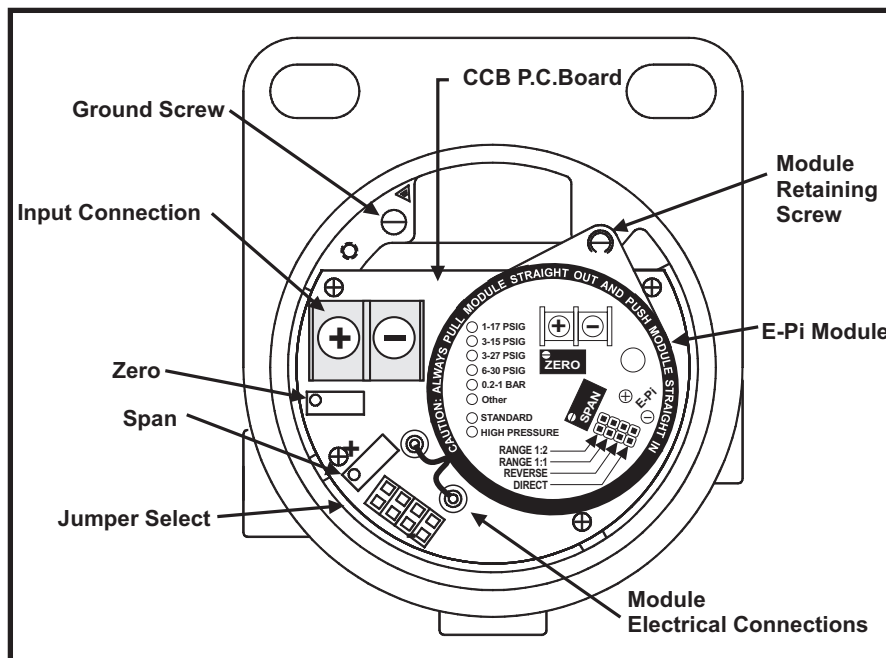

Figure 1 - PCB Connections
**1.1.4 Electrical Input:** 4-20mAdc or 10-50mAdc current source (specify when ordering). It is recommended that shielded cable be used and that shield be grounded to unit and earth ground. If cable contains shield and drainwire, ground shield not drain wire, unless metal conduit is used. Metal conduit should be grounded to earth ground. See Figure 1 on page 3 for location of ground screw.
- 1.4.3 It is recommended that shielded cable be used and the shield grounded at the unit and to earth ground. See Figure 1.
- 1.4.4 See Dimensional Drawings on Cover and Figure 1